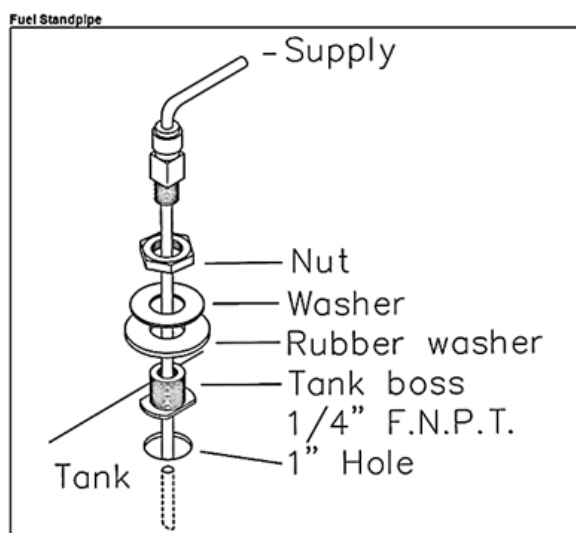

Fig. 406: Fuel Standpipe
- If a spare port is not available, drill a 1" hole on the top of the tank. Assemble the tank-boss and the fuel standpipe and install. (see figure 406)